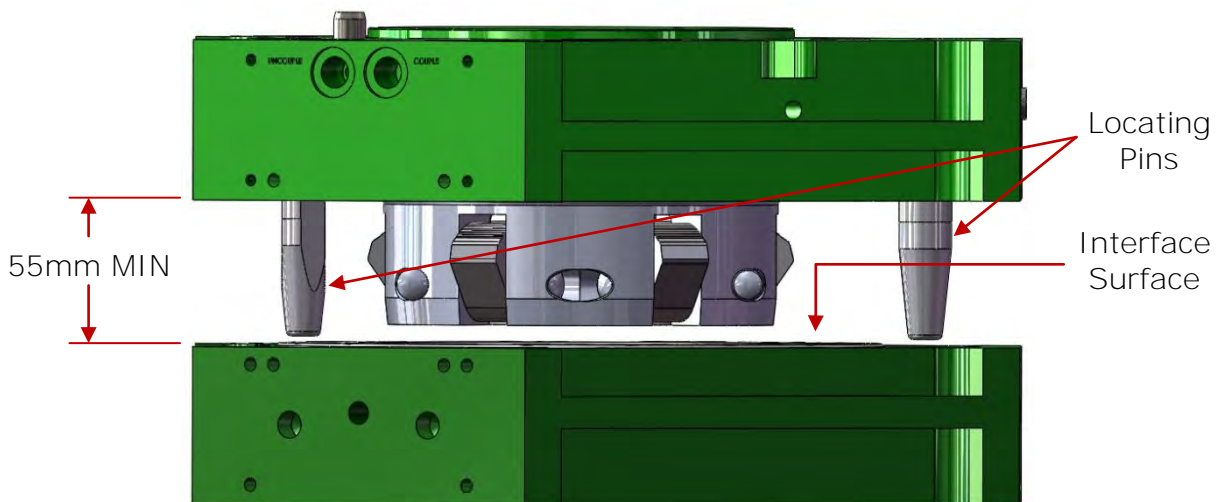

Figure 6.2-1. ES200 Tool Changer – Docking Orientation
1. Orient the Robot Adaptor and Tool Adaptor so that the centerline axes are aligned and the interface surfaces are parallel. Maintain approximately 55mm minimum separation between the Robot Adaptor and Tool Adaptor interface surfaces (Figure 6.2-1). Note that the interface surfaces lie inboard of the outer perimeter of the Robot and Tool Adaptor.